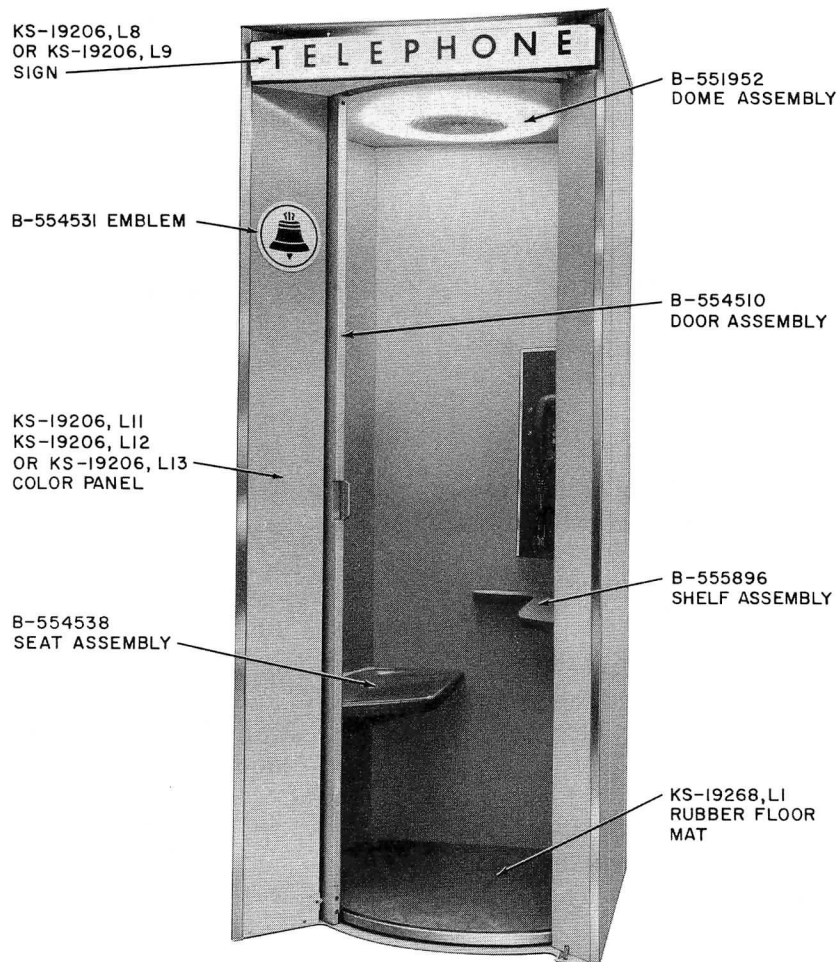

Fig. 1 — KS-19206 Telephone Booth
1.01 This section describes the maintenance of the KS-19206 booth and booth components (Fig. 1).
10.01 The panels are available in three colors (Fig. 1) as follows:
12.01 To replace Bell System emblem (Fig. 1), remove the colored panel as outlined in 10.02.